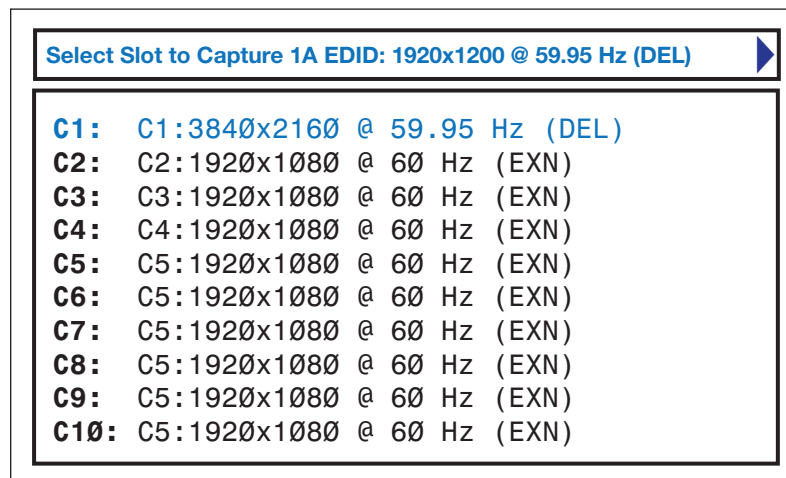

Figure 22. Custom EDID Slots List Example
3. Press the **◀** or **▶** button to display the output to which the select EDID will be captured. In figure 22, output 1A (HDMI) was selected and appears in the top panel.